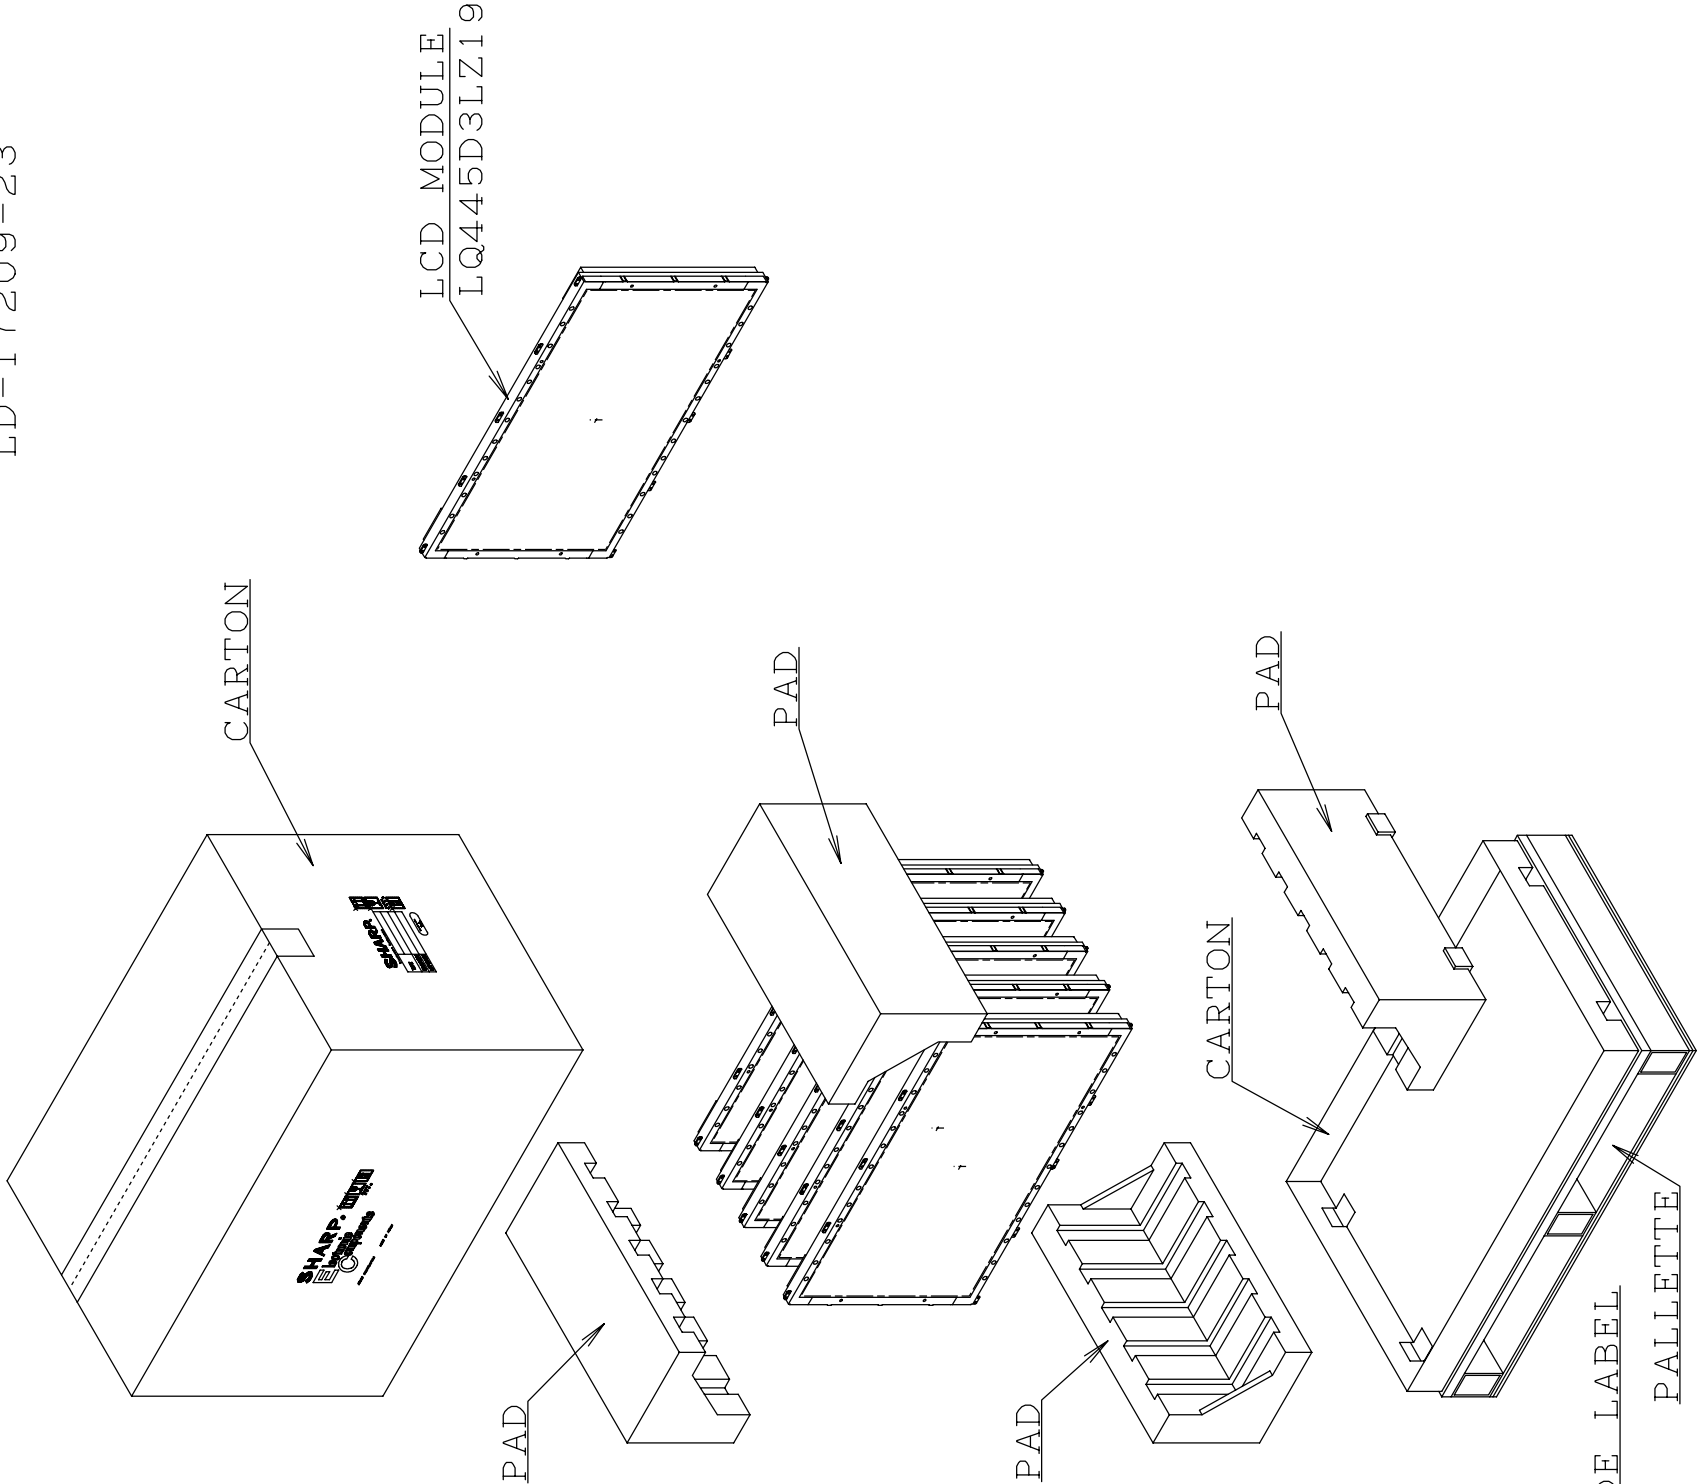

Fig. 3 PACKING FORM (LQ445D3LZ19)
- c) Carton size: 1161 (W) × 596 (H) × 820 (D)
- e) Packing Form are shown in Fig.3